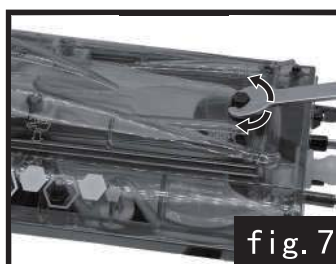
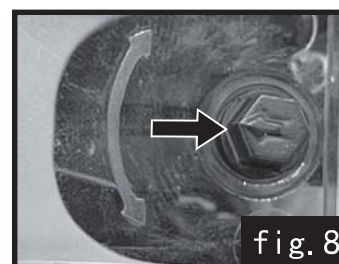

fig. 7
fig. 8
5. Use the complimentary wrench to clamp on the cabin lock at an angle of 45, and then tighten the lock to the left or right. (Please ensure that the arrow of the cabin lock is in the centre position.), fig. 7 and fig. 8.